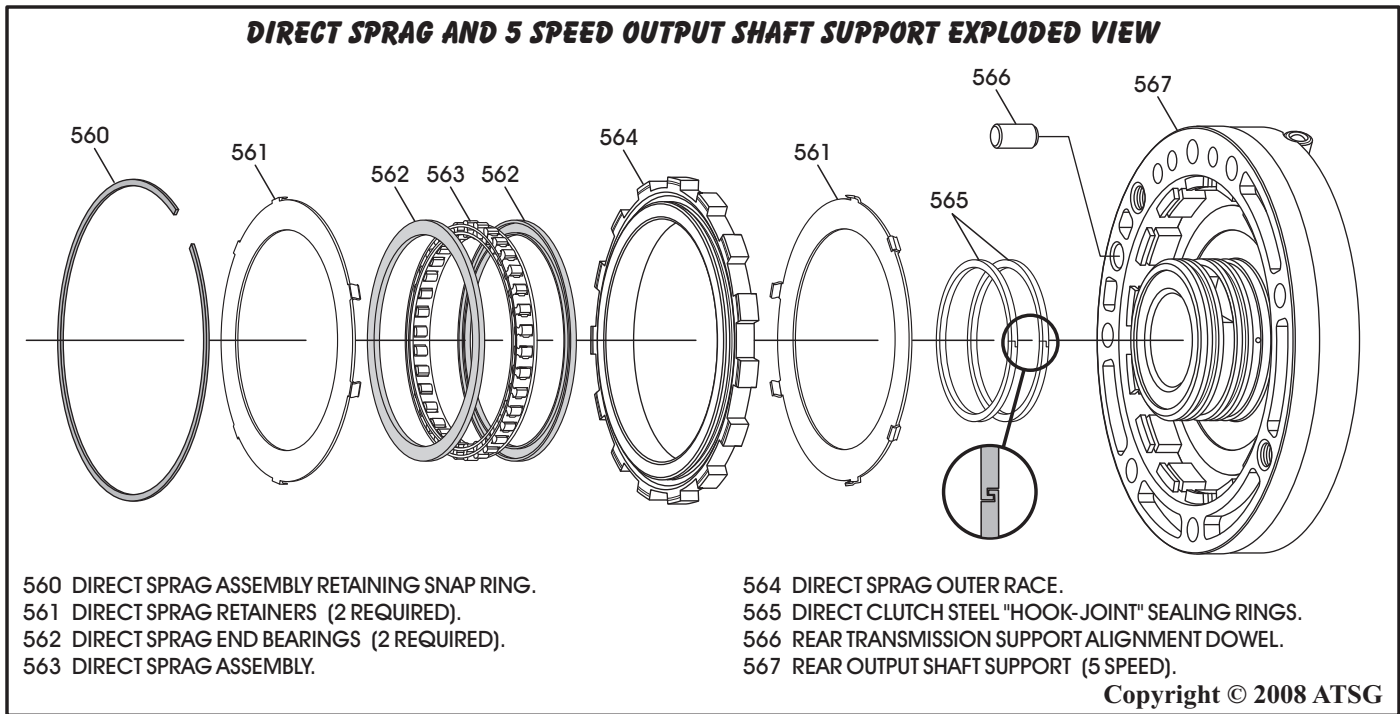

Figure 147
1. Disassemble the 5 speed output shaft support using Figure 147 as a guide.